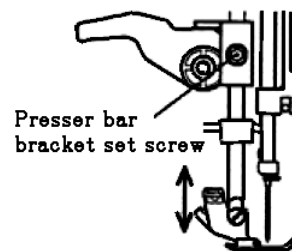

Fig.2
3. Tighten the presser bar bracket set screw. (Fig. 2)